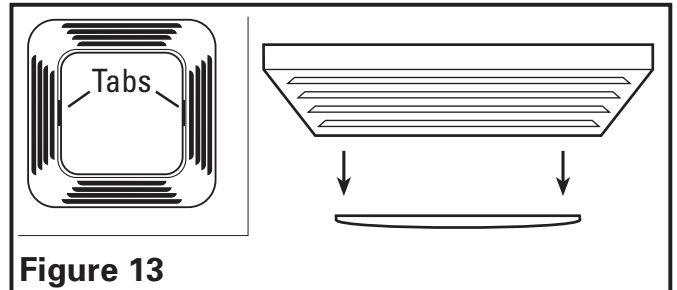

Figure 13
- Changing the Light Bulb:** Disconnect power to the unit. Remove the light lens by squeezing at the tabs and pulling down (**Figure 13**). Remove light bulb and refer to instructions in **Section 6 Completing the Installation**, to complete the light bulb change and installation of light lens.